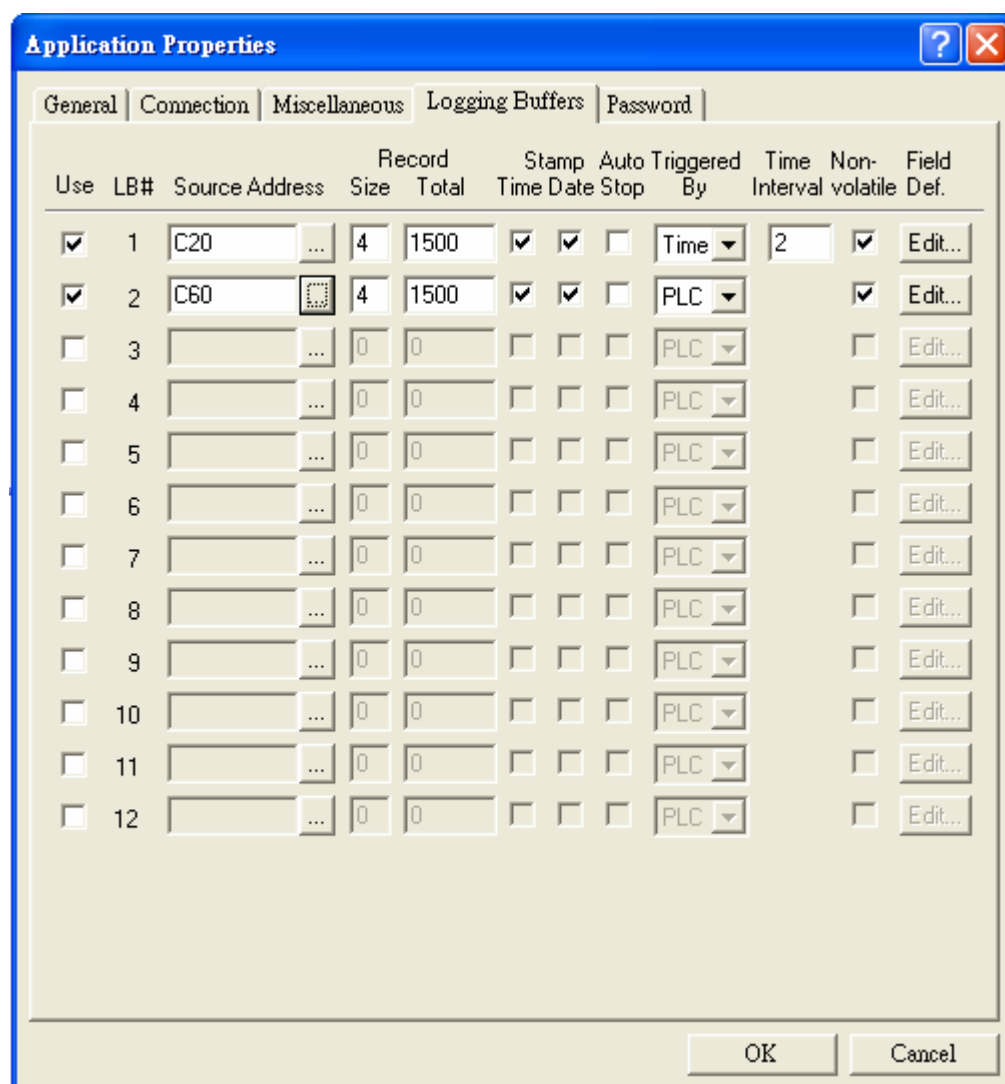

Figure 140. The [Logging Buffers] Tab
1. [Source Address] : Specify the starting address to read from, e.g. “C20” is starting address of a block of PLC registers from which the logging buffer reads from. See Figure 140.